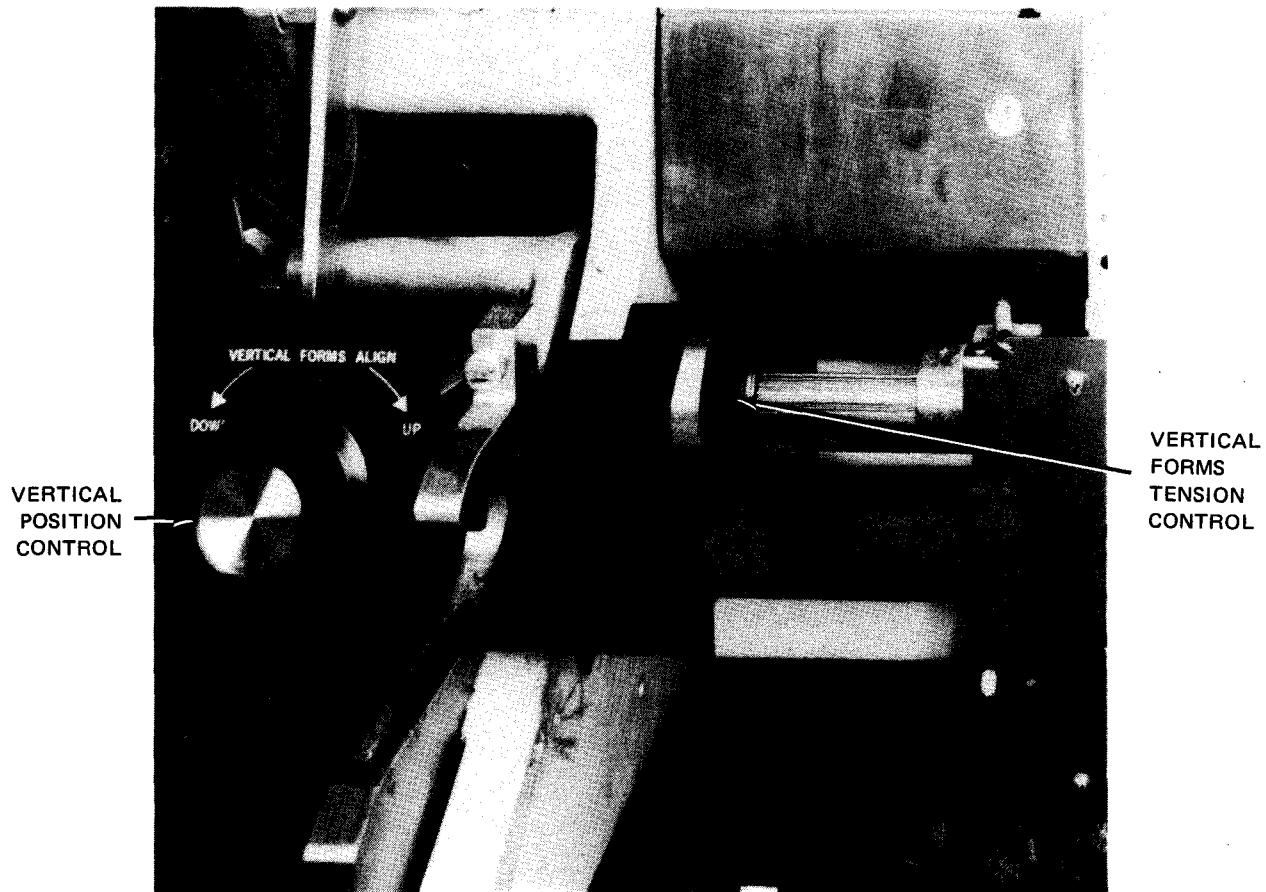

Figure 5—33. Vertical Position Control and Vertical Forms Tension Control
18. Disengage the forms alignment guide from the catch pin and retract it to its normal position (Figure 5—31).
19. Set the forms compression control on the print carriage assembly (Figure 5—34) by rotating the variable control knob to the number 1 dial setting; this setting is satisfactory for most operating conditions. If forms handling difficulties occur, use the lowest dial setting compatible with good forms registration.